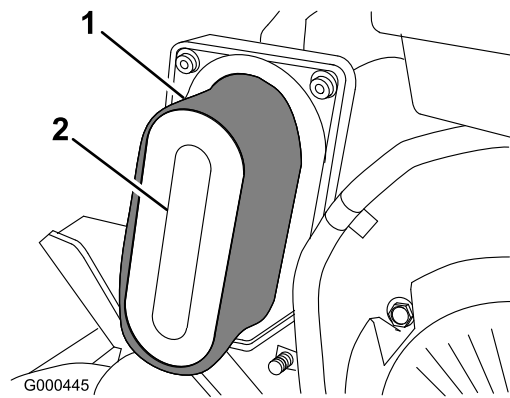

Figure 22
4. If the foam element is dirty, remove it from the paper element (Figure 22) and clean thoroughly, as follows: